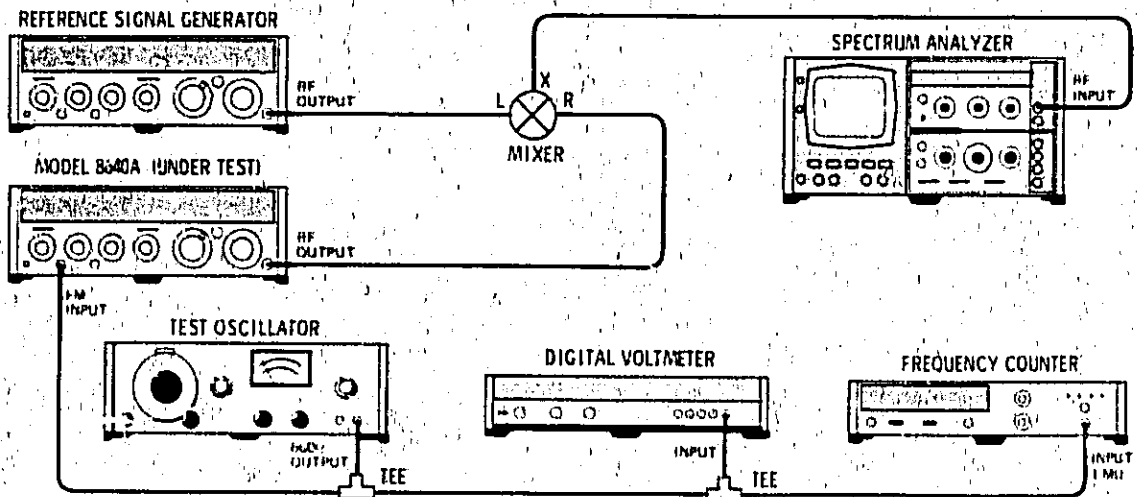

Figure 4-17. FM Sensitivity and Accuracy Test Setup
1. Connect equipment as shown in Figure 4-17 (with test Signal Generator connected to mixer, and mixer connected to analyzer) after setting test generator's controls as follows: